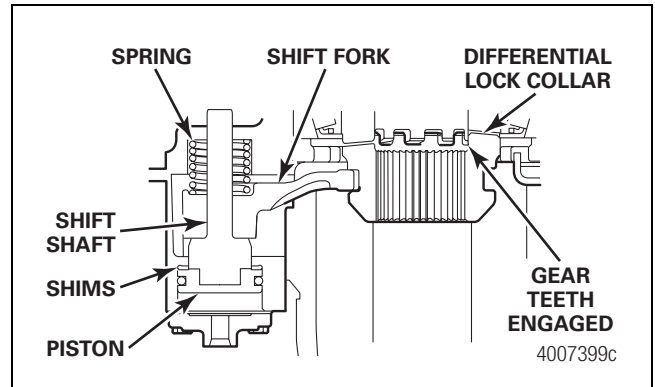

Figure 5
10. Verify that the DCDL is engaged. Figure 5.